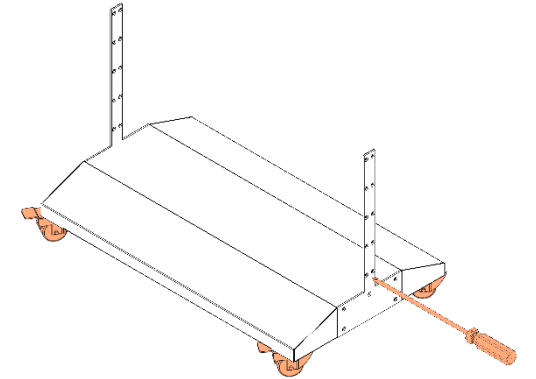

fig 5.3
- ⑤ Fix the right and left support pole to the base by M4x6 screws. Please refer to fig 5.3.